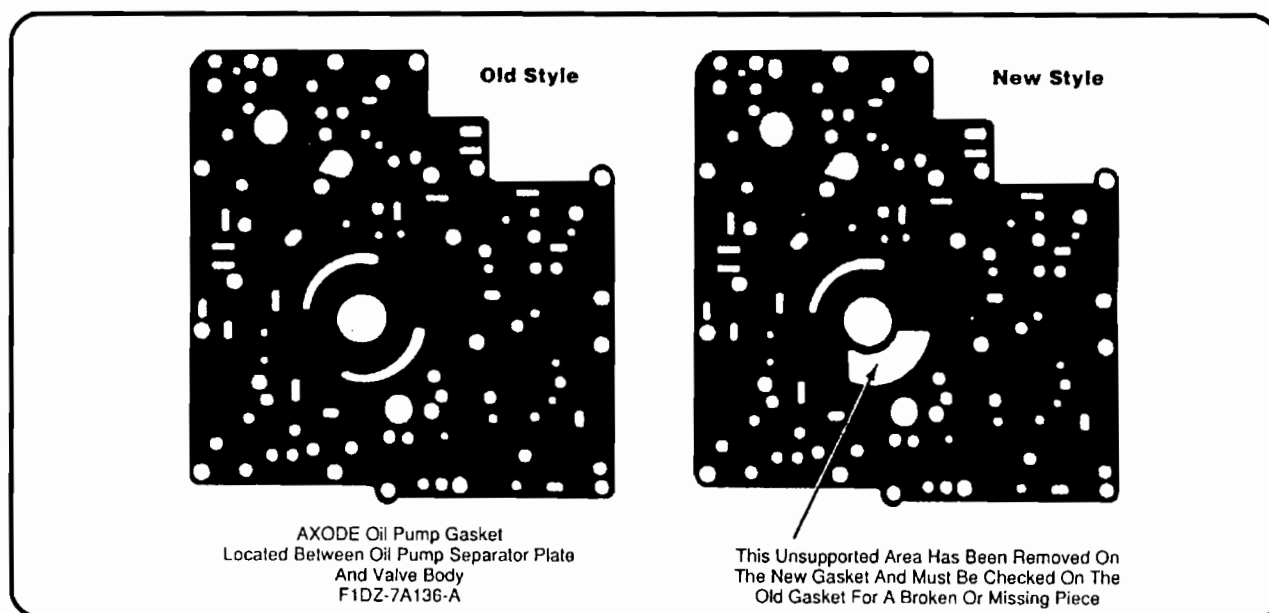

Figure 1
- (1) LOW SPRAG OUTER RACE - The outer diameter of the race was increased from 4.575" to 4.825", and the width of the race was increased from .600" to .725". THE INSIDE DIAMETER OF THE SPRAG OUTER RACE DID NOT CHANGE. Refer to Figure 1.
- (2) FORWARD CLUTCH LINED PLATES - Have an increased inside diameter to accomodate the increased sprag outer race diameter.
- (3) FORWARD CLUTCH STEEL PLATES - Have an increased inside diameter to accomodate the increased sprag outer race diameter.
- (4) FORWARD CLUTCH WAVE PLATE - Has an increased inside diameter to accomodate the increased sprag outer race diameter.
- (5) FORWARD CLUTCH PRESSURE PLATE - Has an increased inside diameter to accomodate the increased sprag outer race diameter.